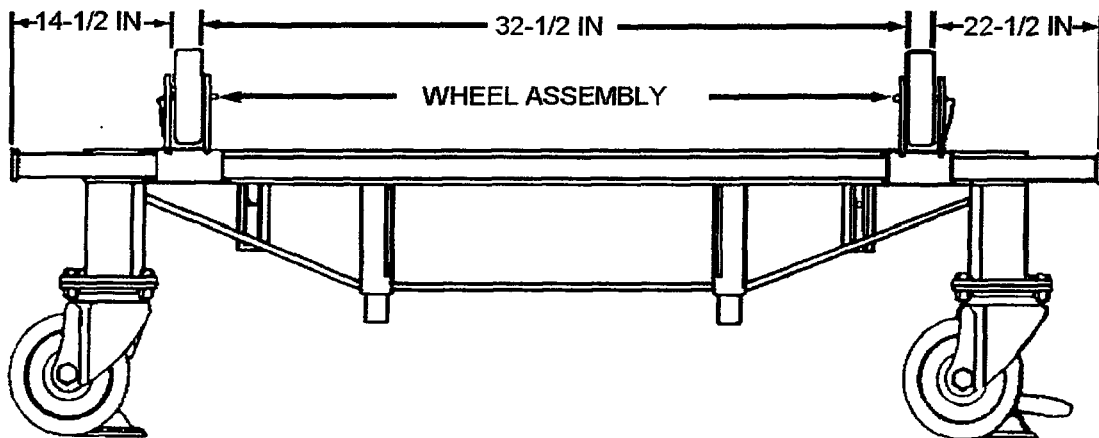

Figure B-3. Dolly Mk 11 Wheel Placement for Mine Mk 63
- b. Referring to Figure B-3, adjust wheel assemblies for correct placement.